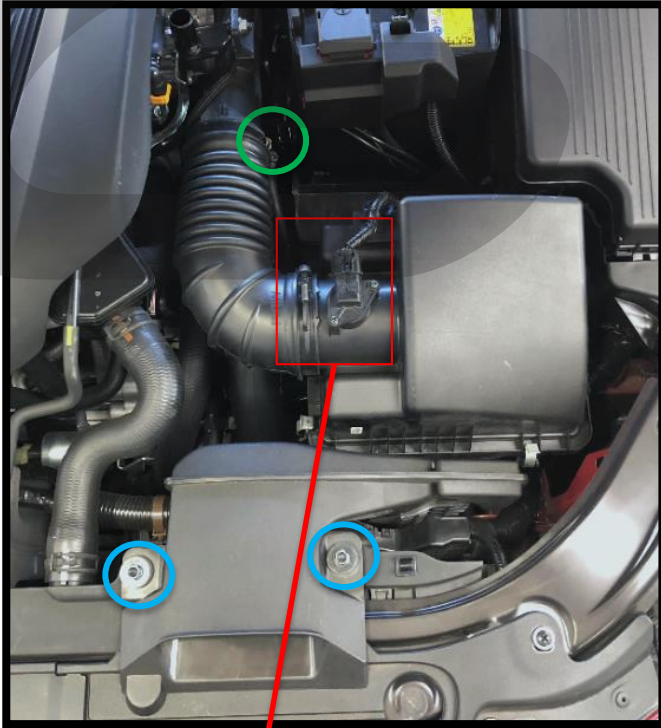

Figure 1a
- Unplug the MAF Sensor by squeezing the top of the wiring connector and pulling toward the rear of the vehicle. Shown in Figure 1a and 1b.
- Remove the two 10mm bolts from the front of the OEM intake. Circled in blue in Figure 1a. Also shown more clearly in Figure 1c below.
- Loosen the clamp where the OEM intake connects to the turbo inlet pipe using a 10mm socket. Circled in green in Figure 1a and shown more clearly in Figure 1d below.